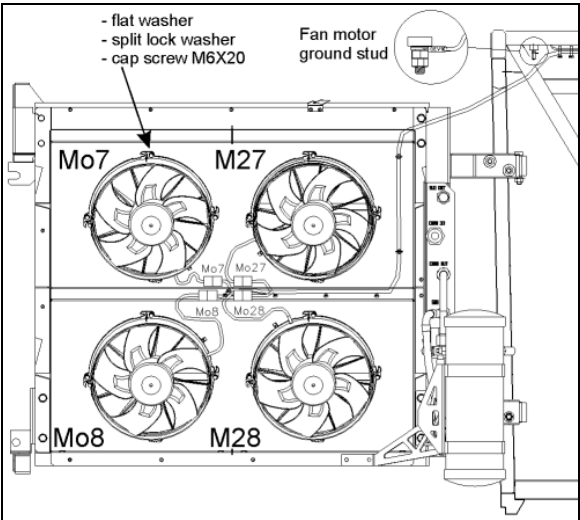

FIGURE 40: CONDENSER FANS
2. Unplug the fan harness connector (Figure 40).